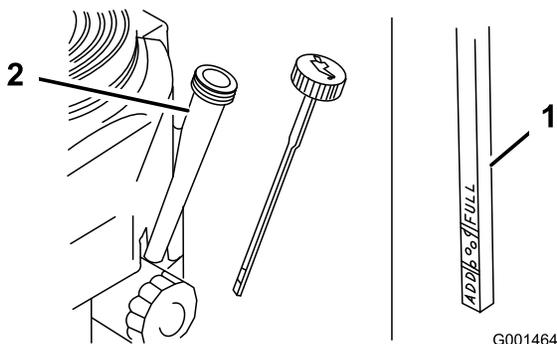

Figure 35
4. Clean around the oil dipstick (Figure 35) so that dirt cannot fall into the filler hole and damage the engine.
5. Unscrew the oil dipstick and wipe the end clean (Figure 35).
6. Slide the oil dipstick fully into the filler tube, but do not thread onto tube (Figure 35).
8. Slowly pour approximately 80% of the specified oil into the filler tube (Figure 35).